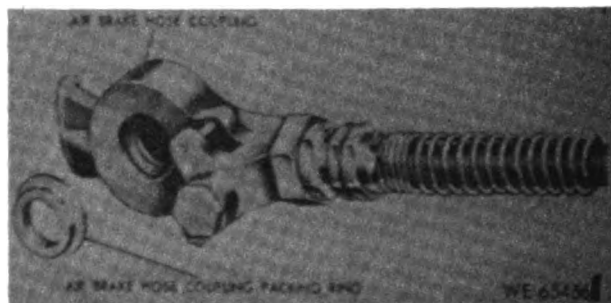

Figure 154. Air brake hose coupling and packing ring.
**b. Remove Air Brake Hose Coupling Packing Ring.** The air brake hose coupling packing ring (fig. 154) is flexible and can be removed from the air brake hose coupling by twisting it sufficiently to free it.
**a. Install Air Brake Hose Coupling Packing Ring.** Squeeze the flexible air brake hose coupling packing ring (fig. 154) sufficiently to force its flanged end into the air brake hose coupling. Be sure the packing ring seats securely in the recess in the hose coupling.